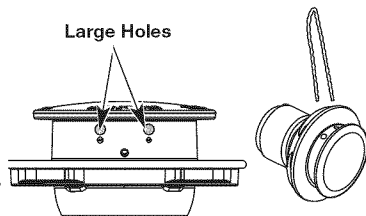

Fig. 16
4. Insert both ends of the line through the large holes in the side of the cutting head (Fig. 16).